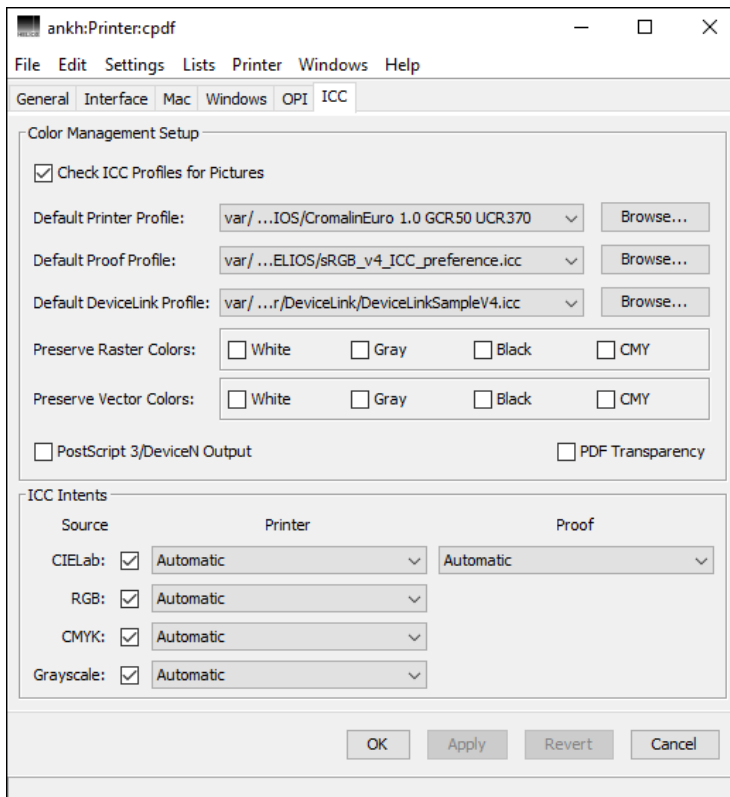

Fig. 4.7: Defining ICC settings for a printer queue
- Highlight a printer from the `Printers` list and then select `Printer > Settings` from the HELIOS Admin menu and go to the `ICC` tab to open the dialog shown in Fig. 4.7.